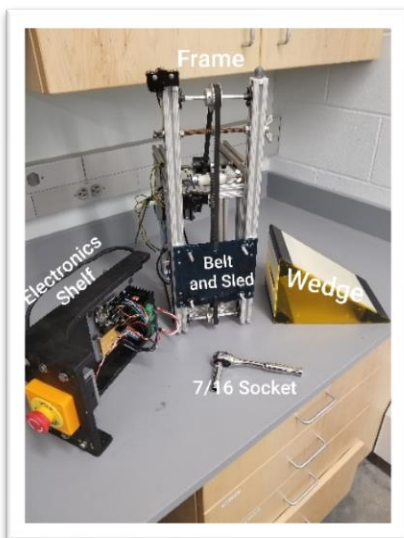

Fig 5.a
1. Ensure all components are present {Fig 5.a}